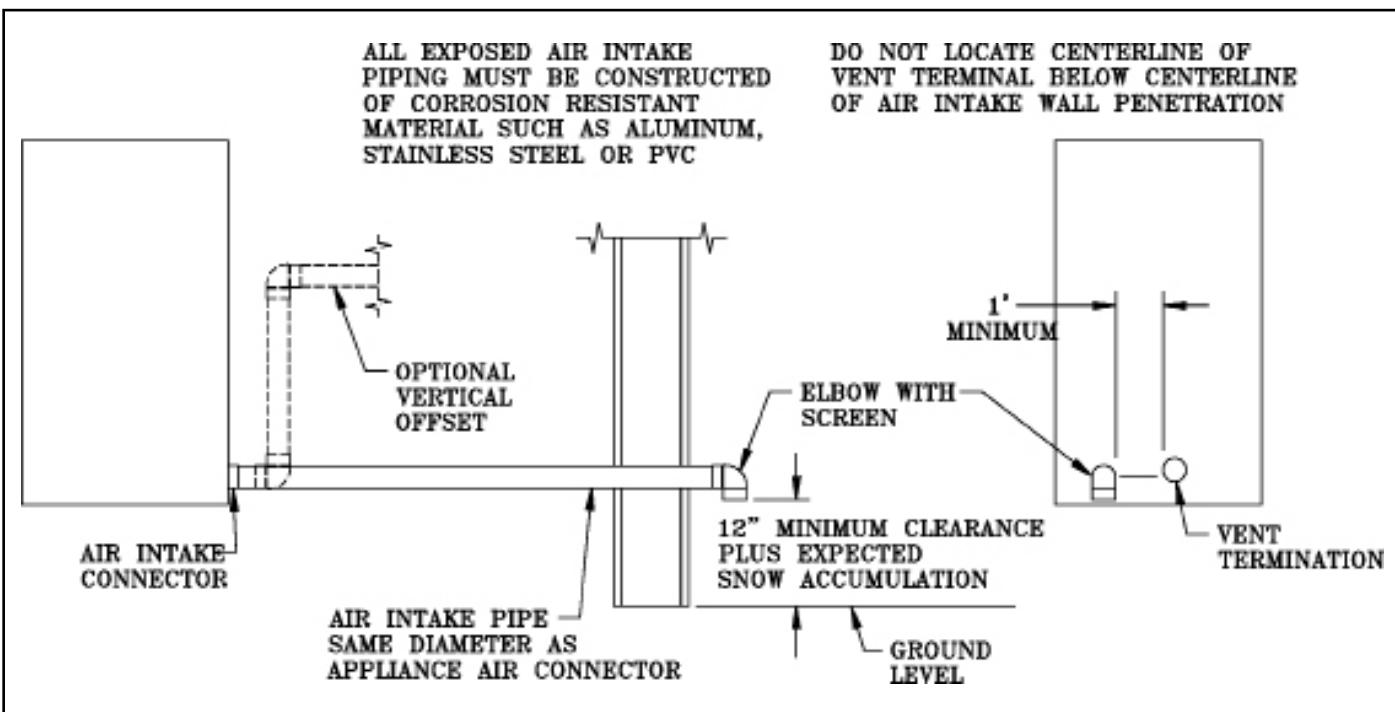

Figure 6: Horizontal Air Intake Piping
1. See Figures 6 and 7.
5. The maximum air intake pipe length is fifty (50) equivalent feet. Air intake pipe length is equal to the total length of straight pipe plus the equivalent length of fittings. Consult intake pipe manufacturer for equivalent length of fittings and pipe.